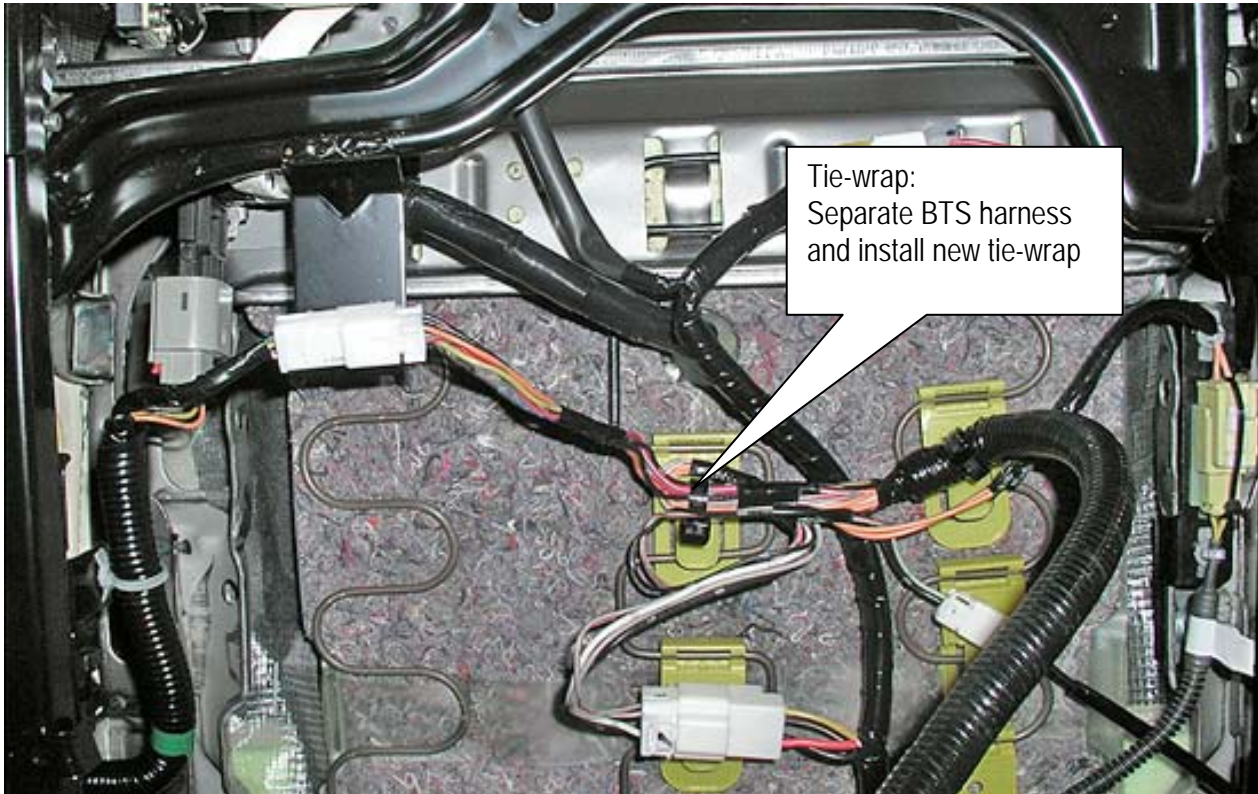

Figure 1a
1. Look under the front passenger seat, locate the tie-wrap shown in Figure 1a and separate the Belt Tension Sensor (BTS) harness from the tie-wrap as follows:
- a. Carefully cut / remove the tie-wrap shown in Figure 1a.